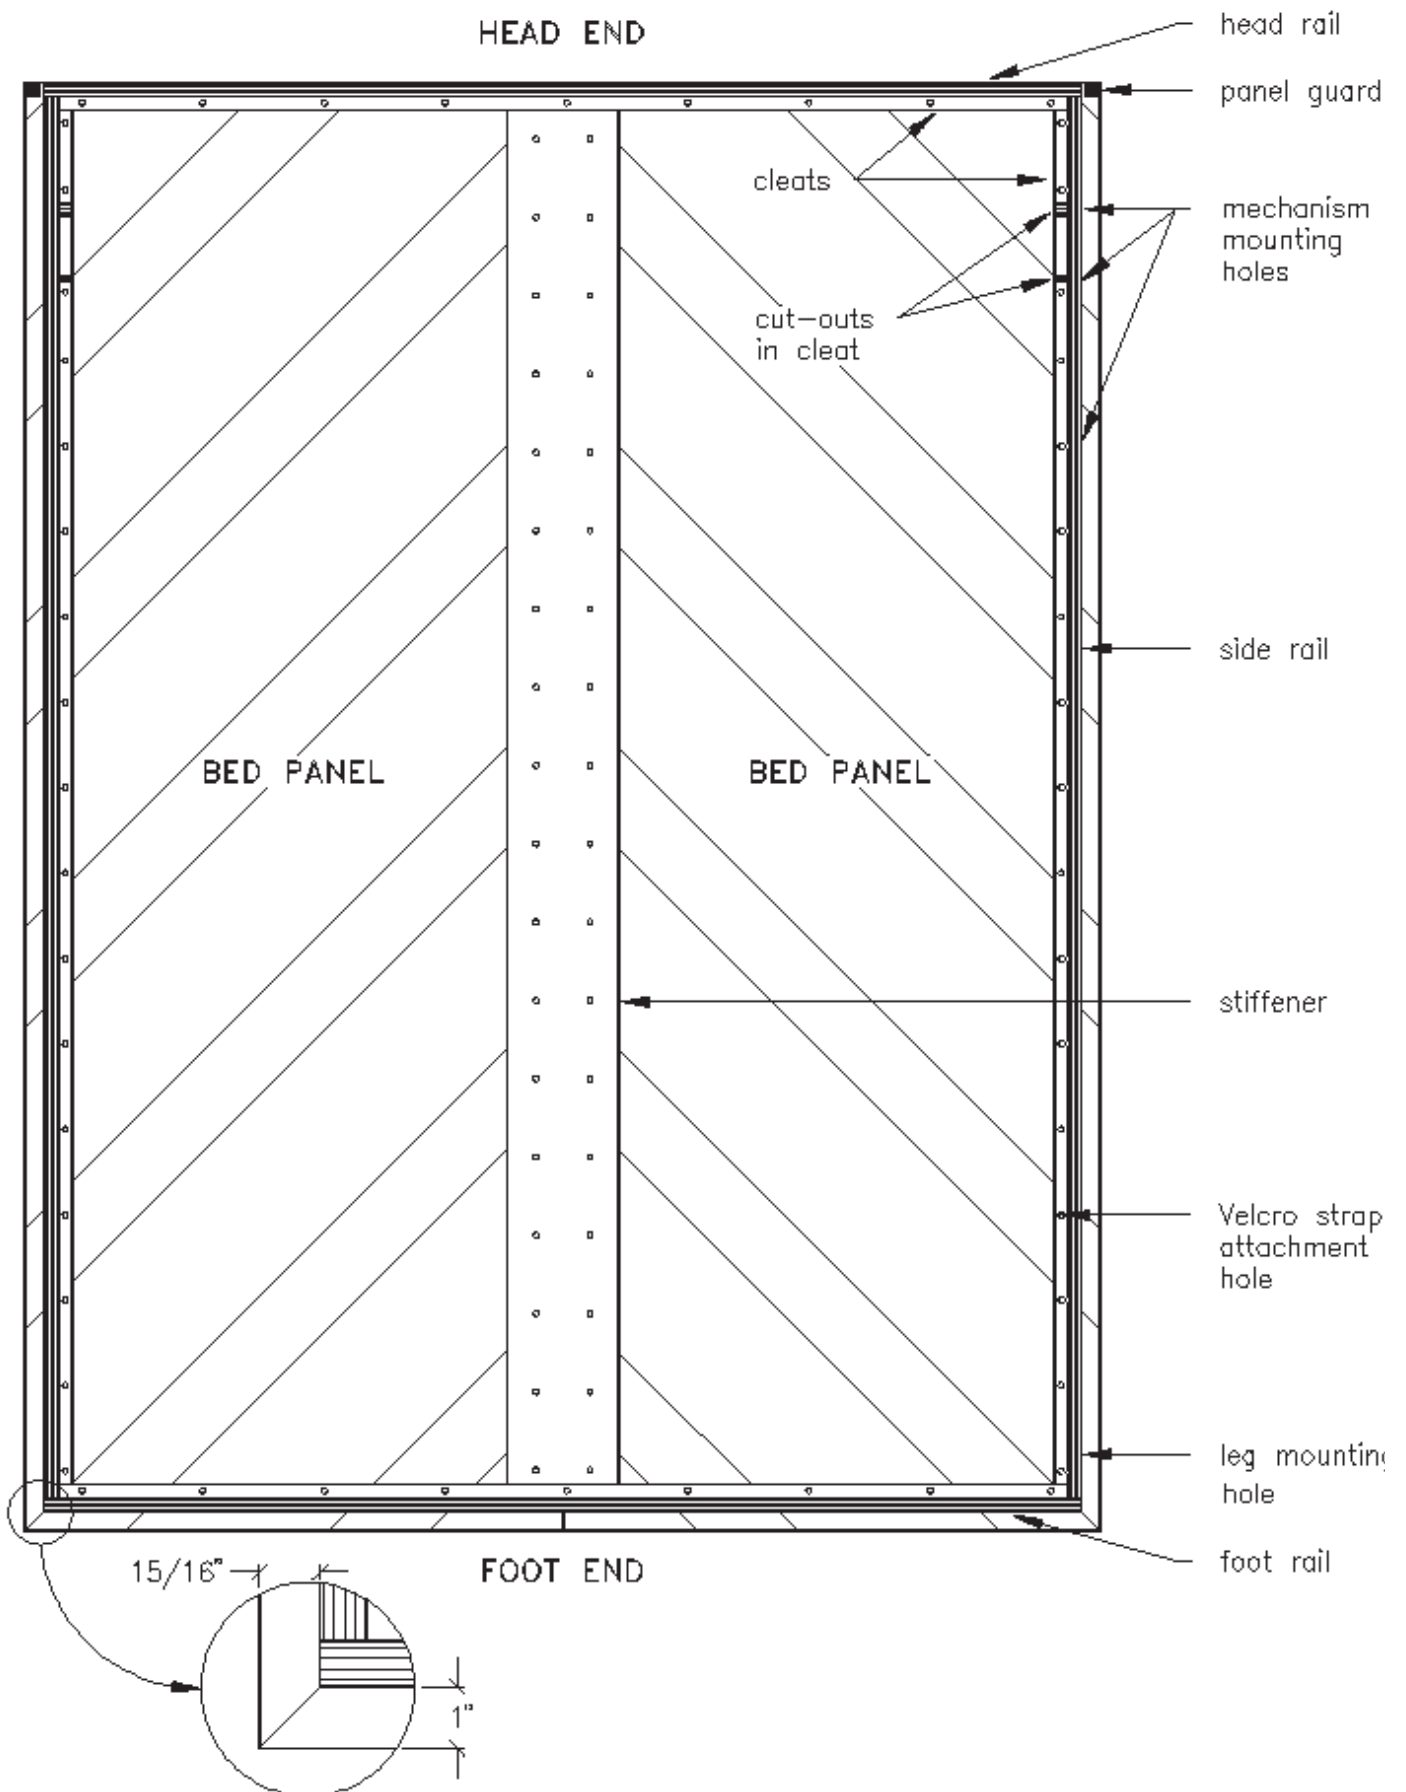

Figure 8. The Bed Panel Unit. Enlarged detail shows offsets for Side & Foot Rails.
- After 12 hours, remove clamps and draw a pencil line on the stiffener side of the joined BED PANELS 15/16" in from each side edge and 1" in from the foot end, see enlarged detail in **Figure 8**. These lines mark the locations of the side and foot rails. The head rail will be flush with the head end.